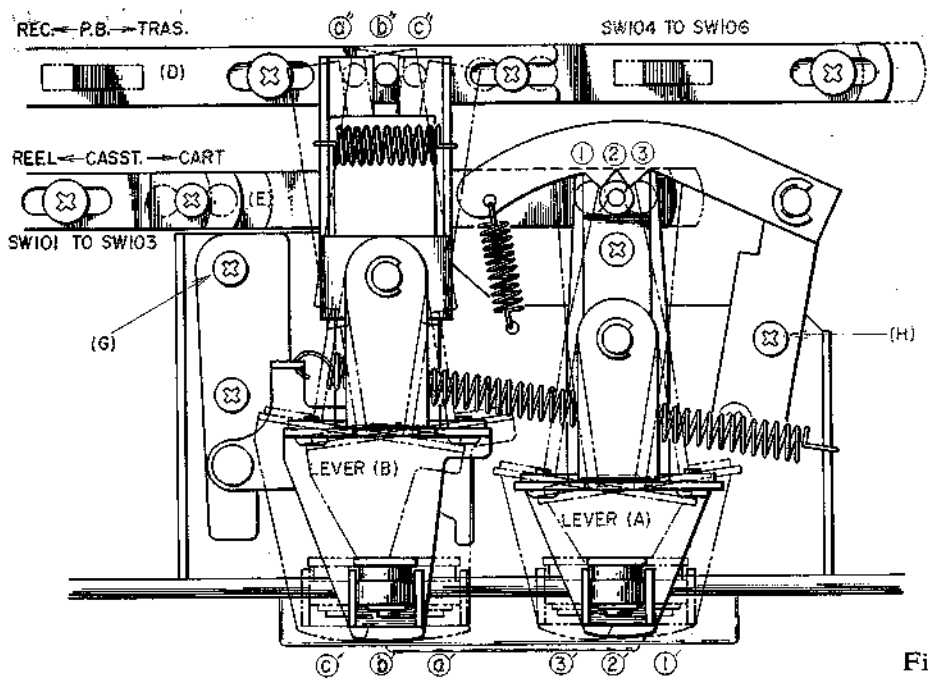

Fig. 9 (B)
(1) RECORDING, PLAYBACK, AND TRANSFER MECHANISMS (SEE FIG. 9 (A) (B))